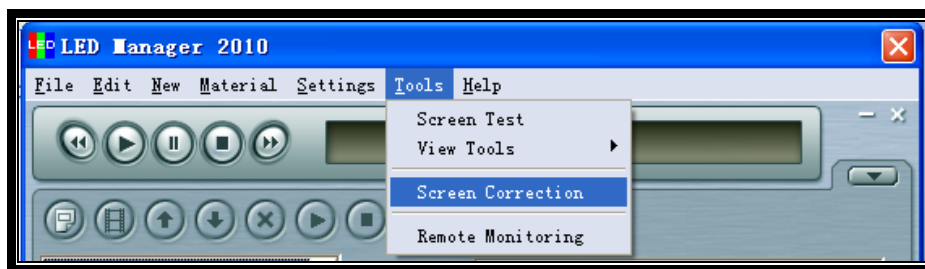

Fig.3-3
Step4: Click “Tools” → "Screen Correction" as shown in fig. 3-3, then the window of “Start Correction” pops up.